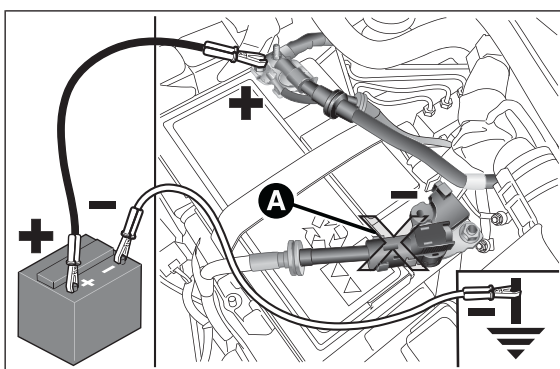

fig. 100
- ☐ connect the positive terminals (sign + near the terminal) of the two batteries with a jump lead fig. 100;